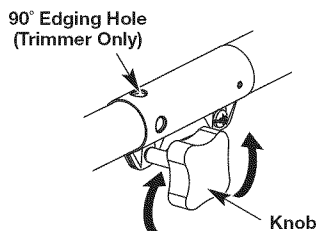

Fig. 4
1. Turn knob counterclockwise to loosen (Fig. 4).
3. Turn the knob clockwise to tighten (Fig. 4).
For decorative edging with the line head trimmer attachment or other attachment, lock the release button of the attachment into the 90° hole (Fig. 4).
1. Turn the knob counterclockwise to loosen (Fig. 4).